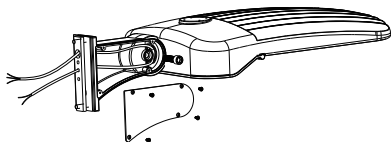

Figure 3
- Step 1: Remove the bracket mounting screws on the fixture, open the side lid of bracket and run the wires through the bracket. (Figure 3)